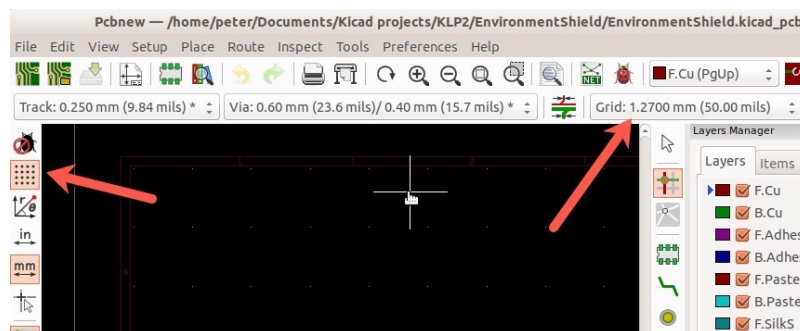

Figure 9.17: Enable the grid and adjust the grid size.
Let's try out the grid button (2). Click on it to enable it. You should see a thin black box around it, indicating that the grid is enabled. White horizontal and vertical lines should be visible in the sheet if the grid size is of an appropriate size. In Figure 9.17, I have enabled the grid and set its size to 1 mm.